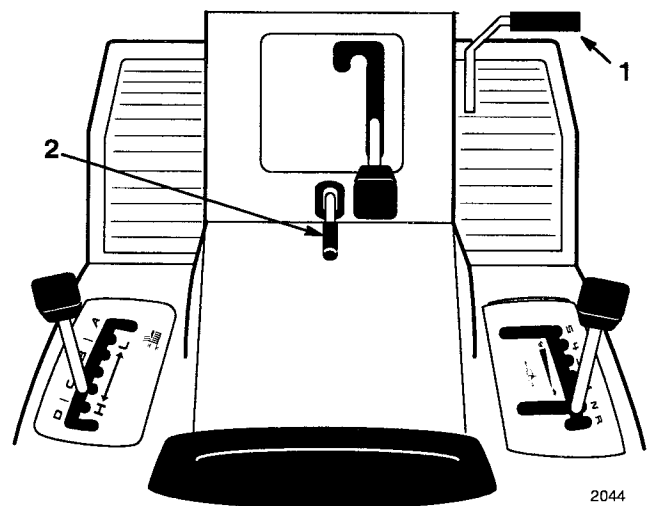

Figure 2
1. Push the clutch/brake pedal (Fig. 2) down and hold it in the depressed position.
2. Lift the parking brake lever (Fig. 2) up and gradually take your foot off the clutch/brake pedal. The clutch/brake pedal should stay in the depressed (locked) position.
1. Push down on the clutch/brake pedal (Fig. 2). The parking brake lever should release.